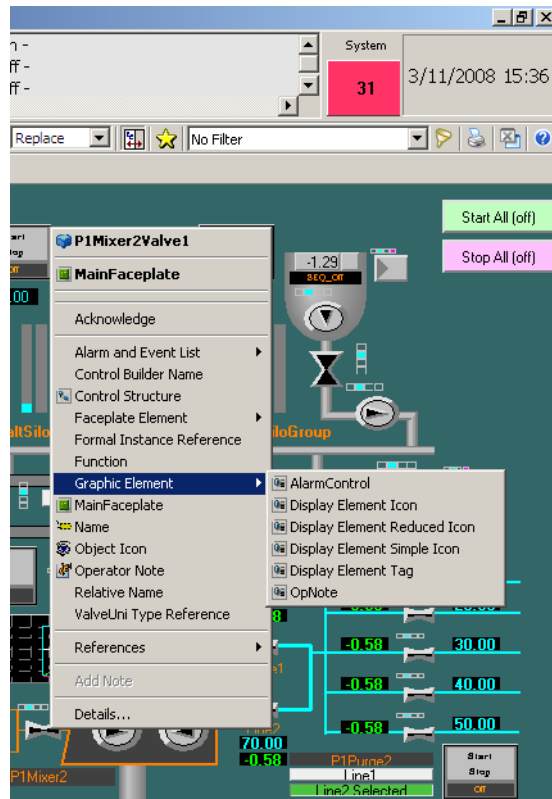

Figure 139. Example of a Submenu
6. To see the result, open a context menu for a process object in a graphic display. See Figure 139.